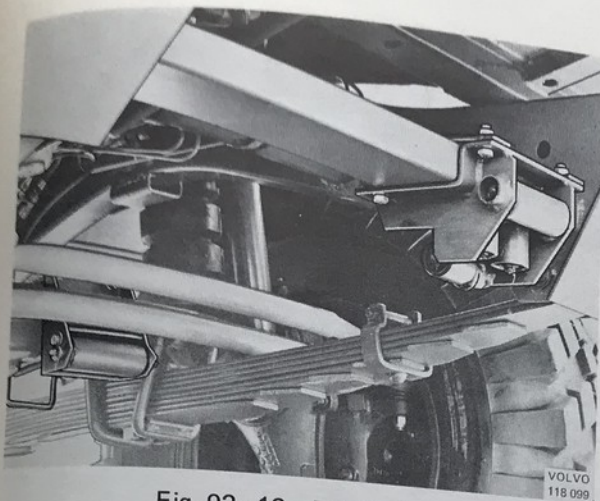

Fig. 92-12. Fair lead
3. Remove the bolt, Fig. 92-12, securing the cable and release the cable from the drum.
Check to make sure that the fair-lead ring and the leading (1) and trailing (2) Fig. 92-12 fair leads are free from damage. Replace damaged material. Grease the rolls for the fair leads and check that the rolls rotate easily.